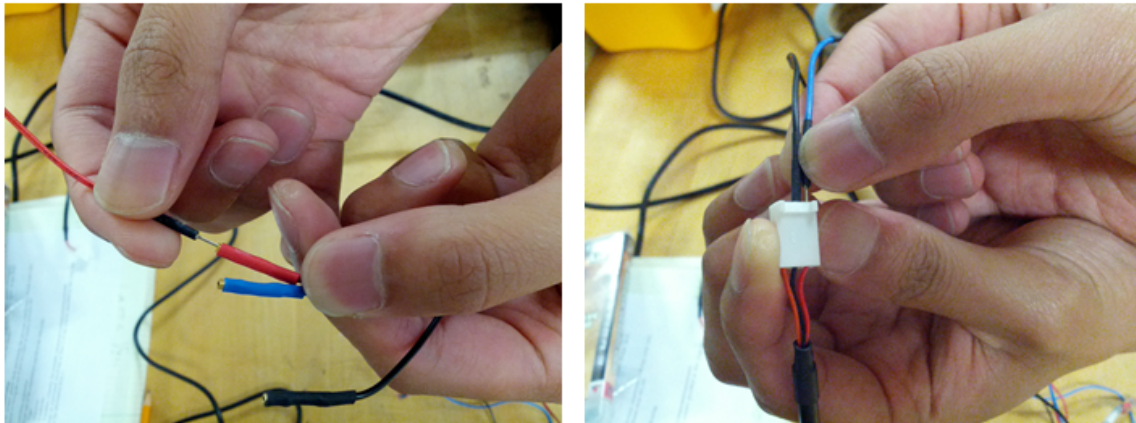

Figure 7 - Procedure to connect sensor wires to male-to-male connector.
Recall from the YouTube tutorials that all of the sensors in this lab require 3 things: 1) Power (Red), 2) Ground (Black), and 3) Signal (Blue), where on the LabQuest Connector, orange is power (5V), black is ground and red is the signal. You will need to use the male-to-male connectors (color of the connector is irrelevant) as shown in Fig. 7.
5. As shown in Fig. 7, connect the Thermistor (wires labeled "TH" coming from the PS3) to Labquest 1, Channel 1.